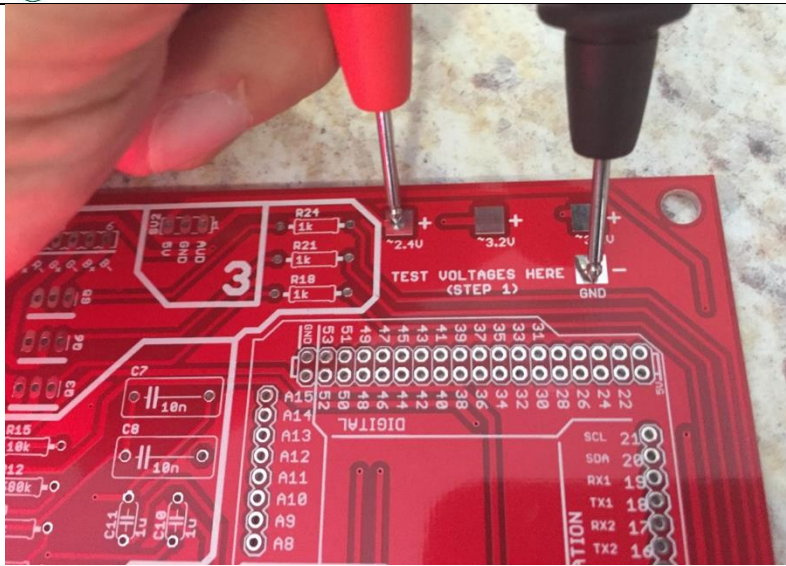

Figure 11: Test pads are located at the top right of the PWB. (Note: Microphone test pad is not shown here).
- Left pad outputs approximately **2.4~3V** (Figure 11 shows measuring of the left pad).